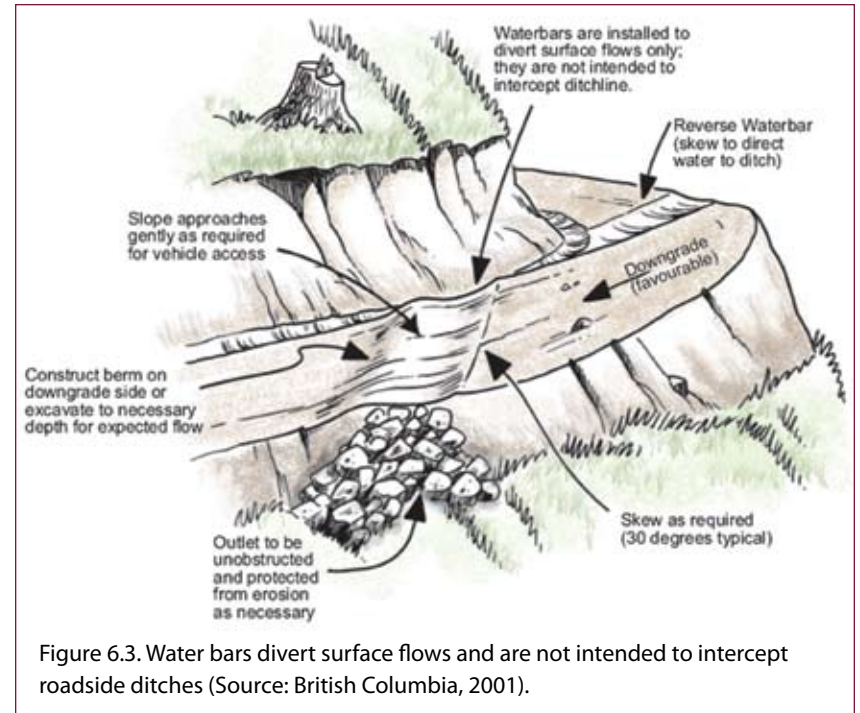

Figure 6.3. Water bars divert surface flows and are not intended to intercept roadside ditches (Source: British Columbia, 2001).
**Water bars** are narrow, earthen berms built across roads to divert **road surface runoff** into vegetated areas (Figure 6.3). To install: